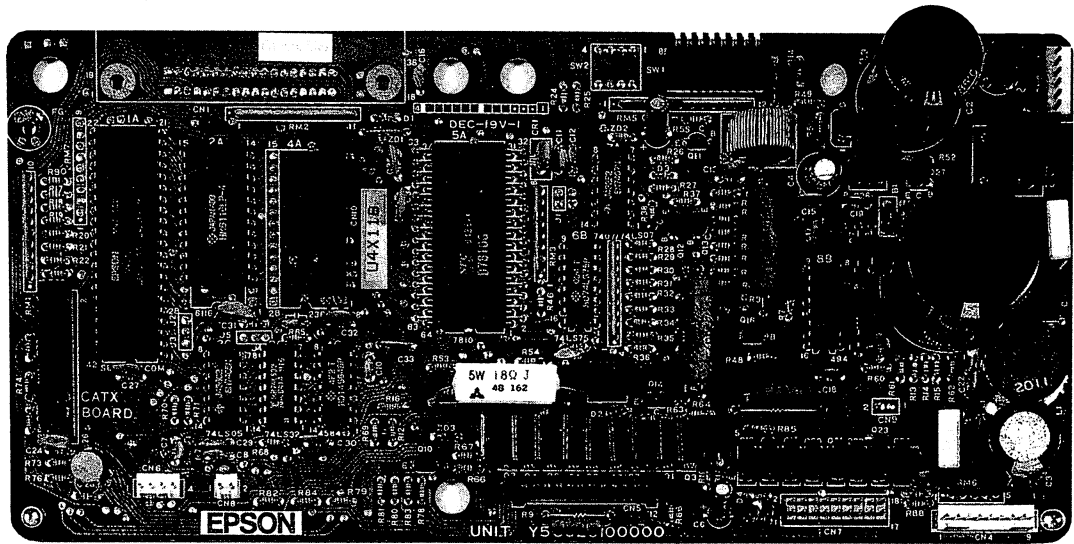
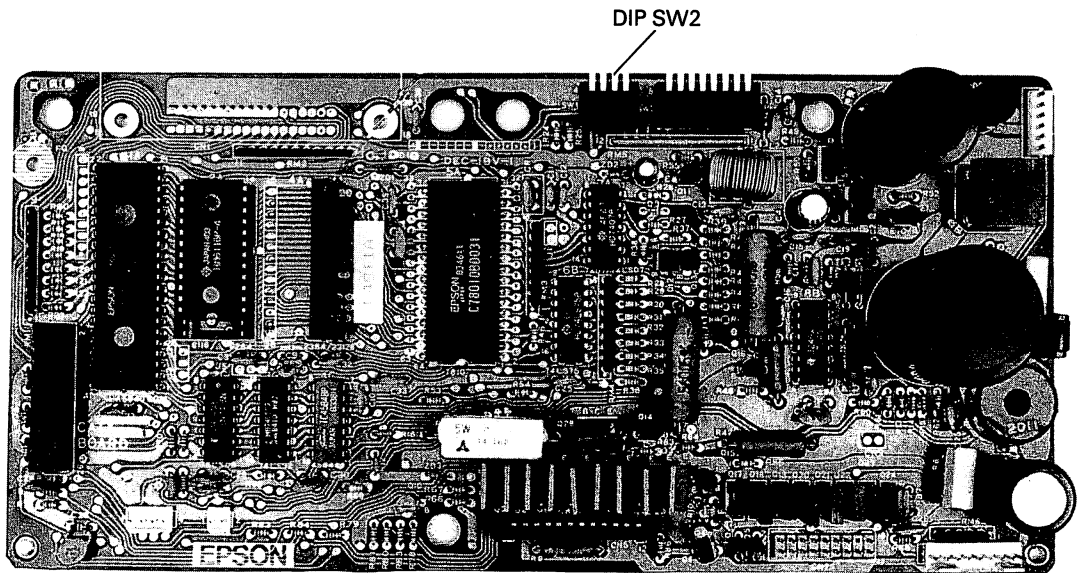

Fig. 1-9. CATX Control Board (120V and 240V Version)
Fig. 1-10. CATX Control Board (220V Version)
1.4.2 CATX Control Board (Figs. 1-9 and 1-10)
The difference of Fig. 1-9 and Fig. 1-10 is only DIP SW2.